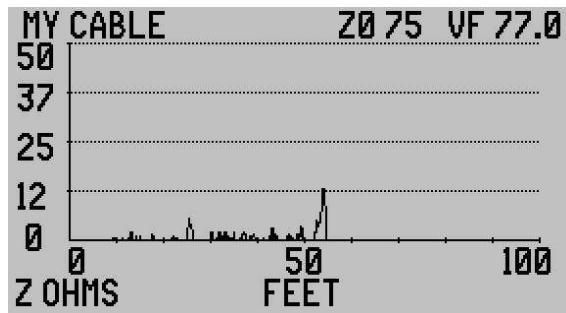

Figure 3-59
**KINKS ONLY** – TDR presents an amplified trace of reflections from kinks, crimps or crushed areas along the cable. The cable's  $Z_0$  is plotted at the bottom of the plot with the faults appearing as upward refection spikes. In figure 3-59 the micro fault at about 25 feet (5 Ohms) may not be service affecting. The micro fault at 55 feet (12 Ohms) is most likely service affecting. Anything over 15 Ohms is certain to affect service.